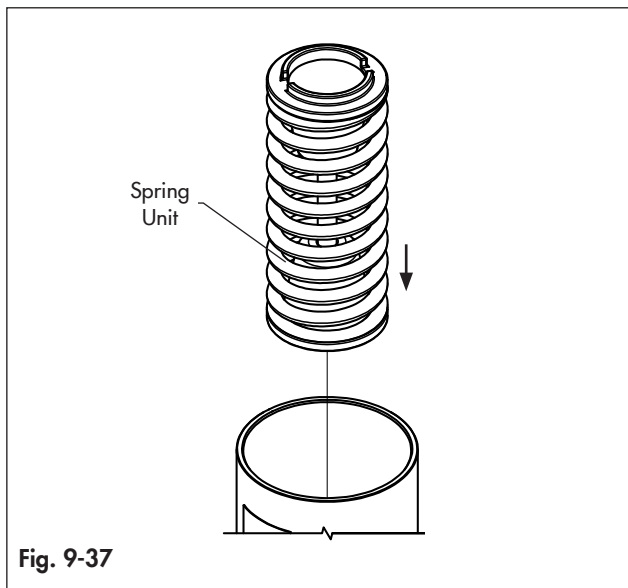

Fig. 9-37
- Place the spring preloaded unit inside the cylinder by paying attention to match its proper housing (Fig 9-37).